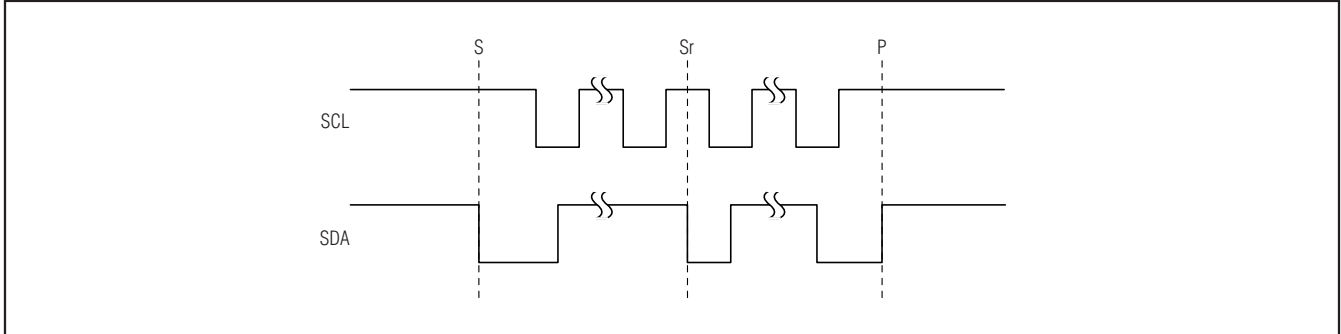

Figure 7. START (S), STOP (P), and REPEATED START (Sr) Conditions
SDA and SCL idle high when the bus is not in use. A master initiates communication by issuing a START (S) condition. A START condition is a high-to-low transition on SDA with SCL high. A STOP (P) condition is a low-to-high transition on SDA while SCL is high (Figure 7). A START condition from the master signals the beginning of a transmission to the MAX9860. The master terminates transmission, and frees the bus, by issuing a STOP condition. The bus remains active if a REPEATED START (Sr) condition is generated instead of a STOP condition.
The acknowledge bit (ACK) is a clocked 9th bit that the MAX9860 uses to handshake receipt each byte of data when in write mode (see Figure 7). The MAX9860 pulls down SDA during the entire master-generated 9th clock pulse if the previous byte is successfully received. Monitoring ACK allows for detection of unsuccessful data transfers. An unsuccessful data transfer occurs if a receiving device is busy or if a system fault has occurred. In the event of an unsuccessful data transfer, the bus master retries communication. The master pulls down SDA during the 9th clock cycle to acknowledge receipt of data when the MAX9860 is in read mode. An acknowledge is sent by the master after each read byte to allow data transfer to continue. A not acknowledge is sent when the master reads the final byte of data from the MAX9860, followed by a STOP condition.